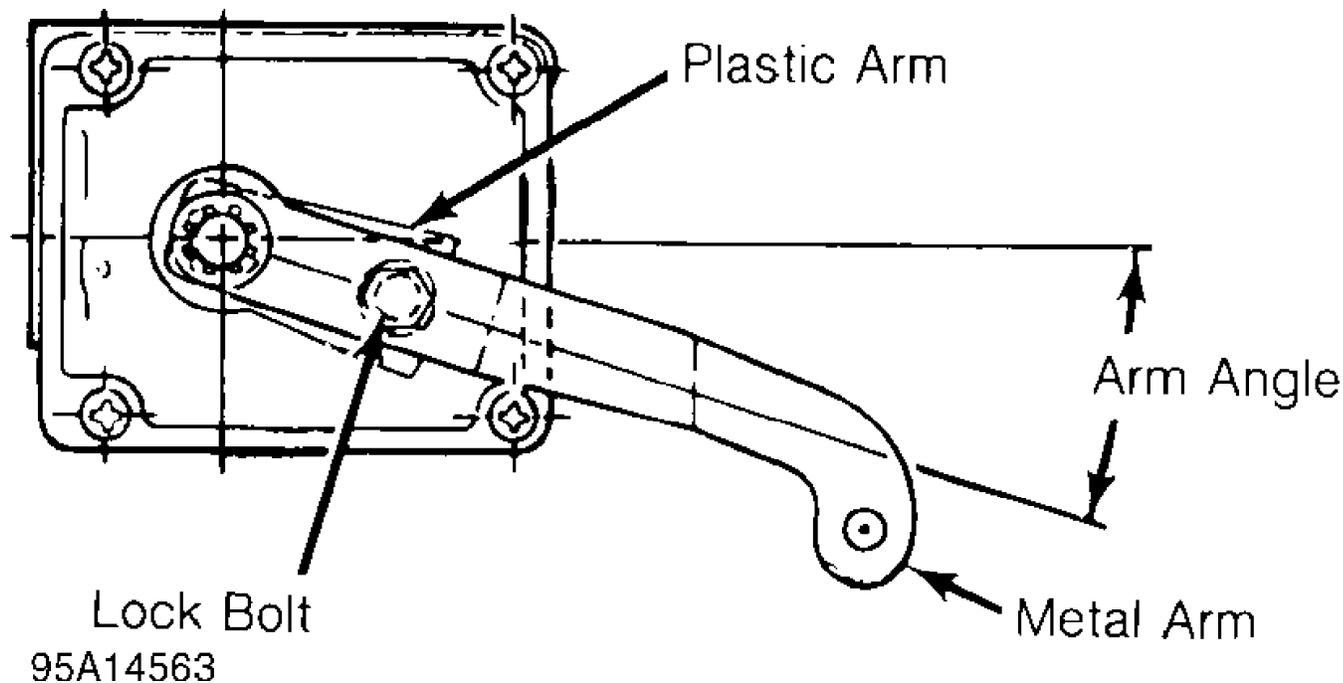

Fig. 1: Adjusting Height Sensor
When ride height decreases due to weight being added to vehicle, height sensor arm assembly rotates upward in relation to height sensor. See Fig. 1. This activates a timing circuit in height sensor. After a delay of 17-27 seconds, height sensor grounds compressor relay, turning on compressor. Air is then pumped into the shock absorbers, raising vehicle. Delay prevents system from operating during normal changes in ride height that occur during driving. As vehicle rises, height sensor rotates downward. When vehicle rises to within one inch (25.4 mm) of curb height, height sensor opens ground circuit to compressor relay, turning compressor off.
4) If rear ride height is not within specification, loosen lock bolt on sensor actuating arm. See Fig. 1. Move plastic arm upward or downward as necessary to increase or decrease rear ride height. To increase rear ride height, move plastic arm upward. To decrease rear ride height, move plastic arm downward. Tighten lock bolt.